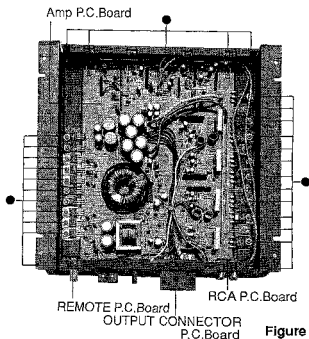

Figure 2
- (1) After removal of the Bottom Cover, remove 31 screws marked "●". Then, the Main P.C.Board will be removed from heat tank together with Rear Chassis and RCA, Output Connector, Remote P.C.Board as shown in Figure 2.